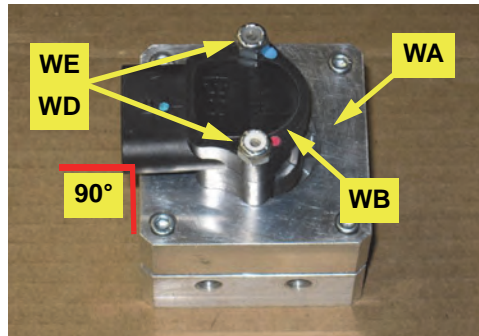

Figure 1a: Prepared WAS housing\connector
- a. Using the provided hardware **WE** (nuts) and **WD** (bolts - not visible), attach the WAS wire connector **WB** to the WAS housing **WA**. Install the bolts up through the bottom of the housing. The WAS wire connector **WB** can be mounted 90° to any of the WAS housing **WA** sides (Figure 1a).